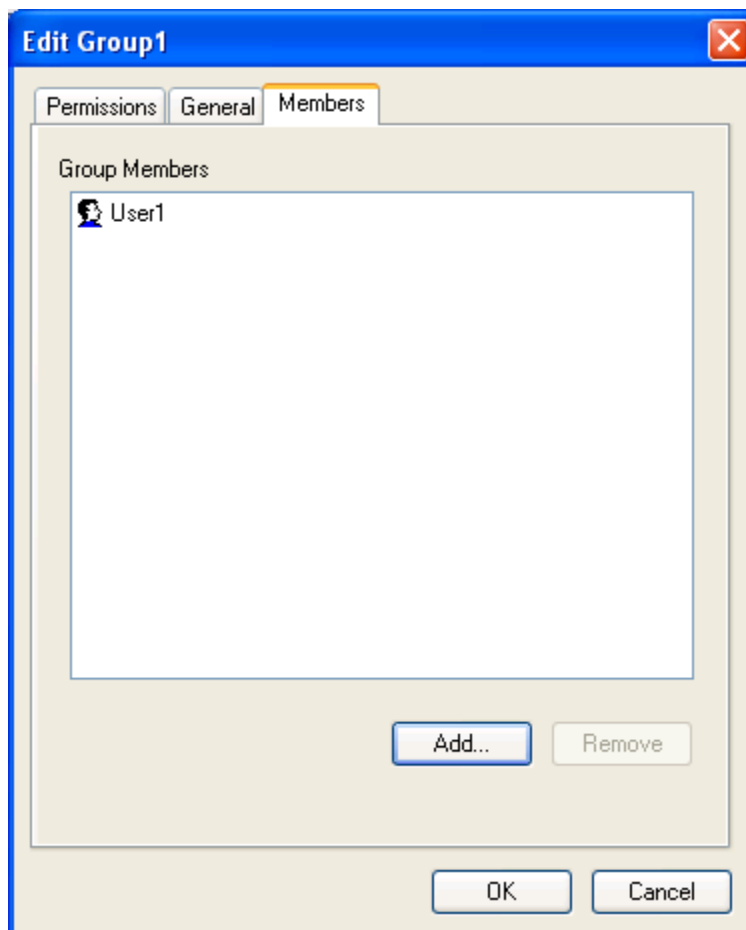

Figure 92 - Edit <Groupname> Window (Members Tab)
On the **Members** tab (Figure 92), the users that are part of the current group are defined. By default, the **Group Members** screen section is empty. In Figure 92, **User1** has been added to **Group1**.
3. Click on the **OK** button. The selected user or users appear in the **Group Members** screen section on the **Members** tab (Figure 92).